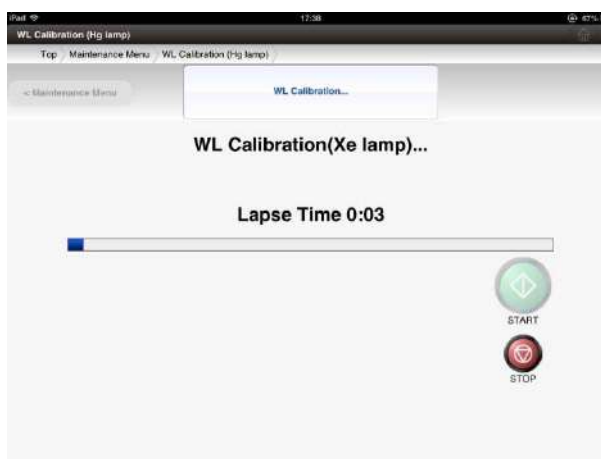

Fig. 6-48 Wavelength Calibration by Built-in Lamp Under Way Screen
- (3) Press the  [Start button] to perform the Wavelength calibration. The calibration starts and the screen in Fig. 6-48 is displayed.